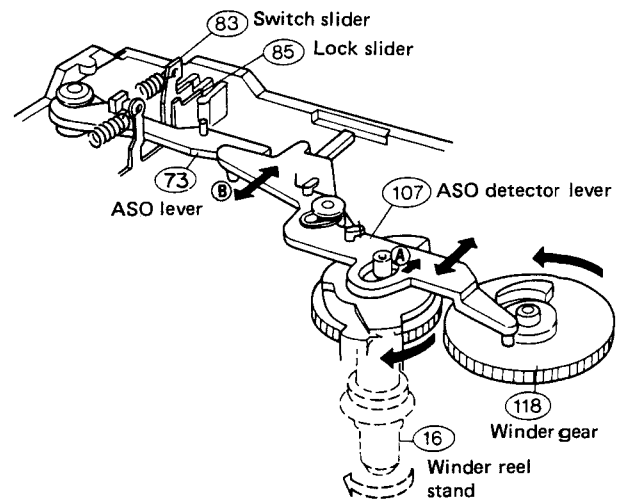

Fig. 15
As lock plate ⑧⑤ moves, the operation slider is returned and each operation is stopped. When the operation lever is returned switch slider ⑧③ is returned to turn off the power (Fig. 15).